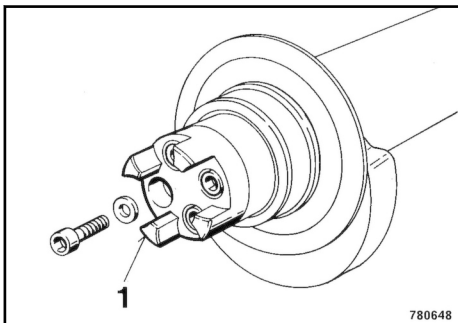

Fig. 230
5. Pull coupling hub 1 ↗ Fig. 230 off the exciter shaft.